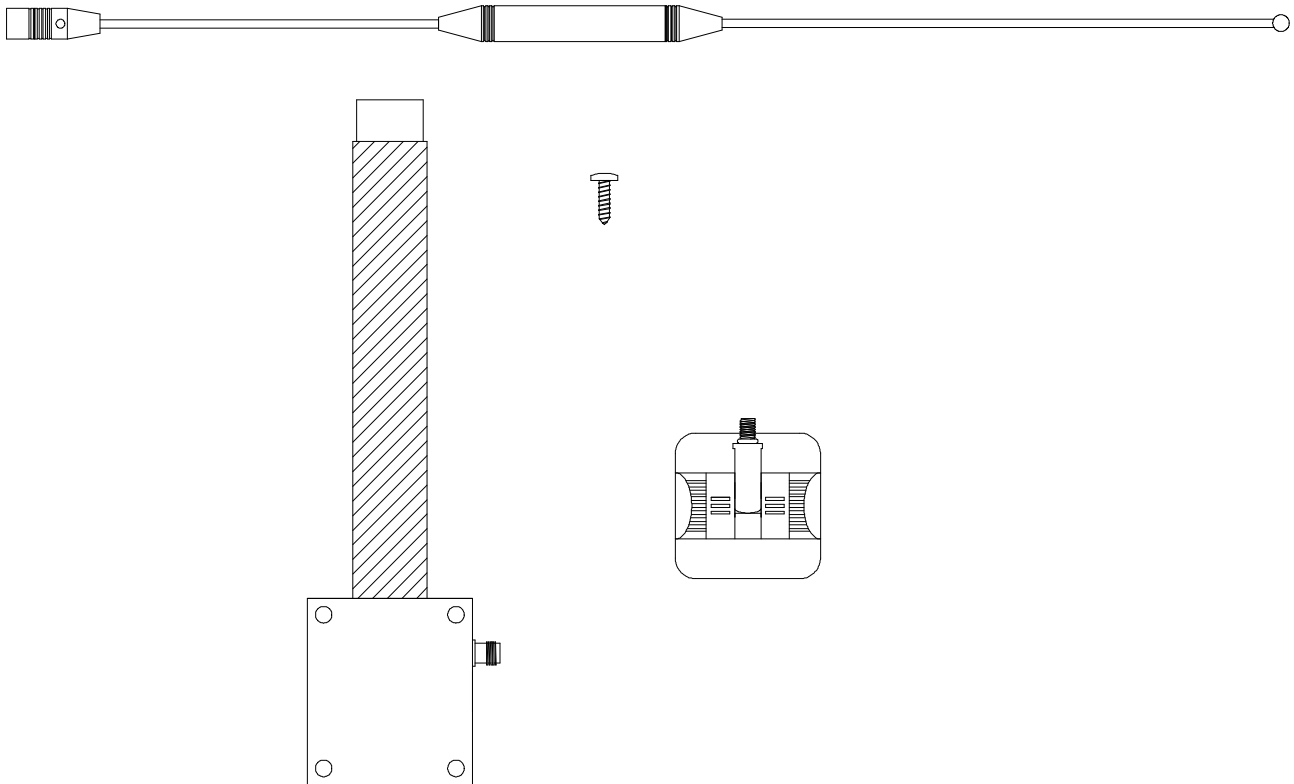

Figure 1 – General Assembly
1. **Part List:** The package includes an antenna, coupler, cable, mounting hardware and connector for the two way-radio. Use only the components supplied with the antenna (Refer to Figure 1).